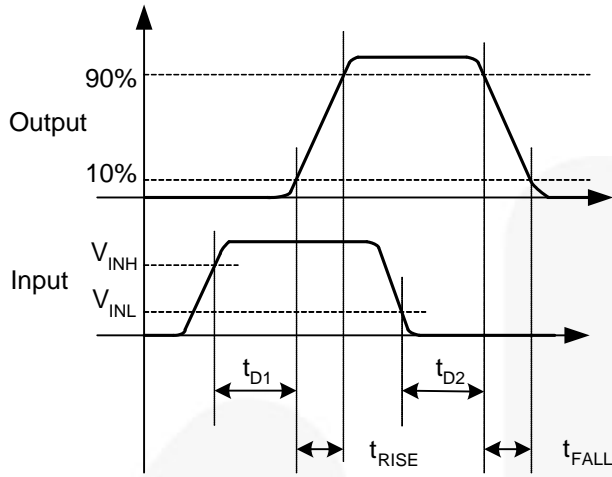
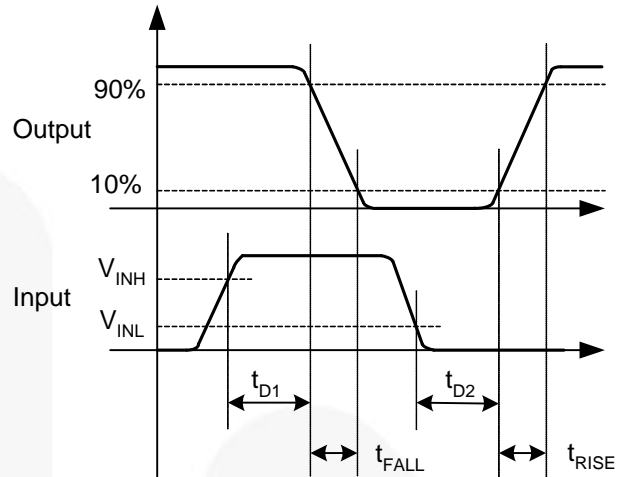

Figure 8. Non-Inverting (EN HIGH or Floating)
Figure 9. Inverting (EN HIGH or Floating)
13. See *Timing Diagrams of Figure 8 and Figure 9.*